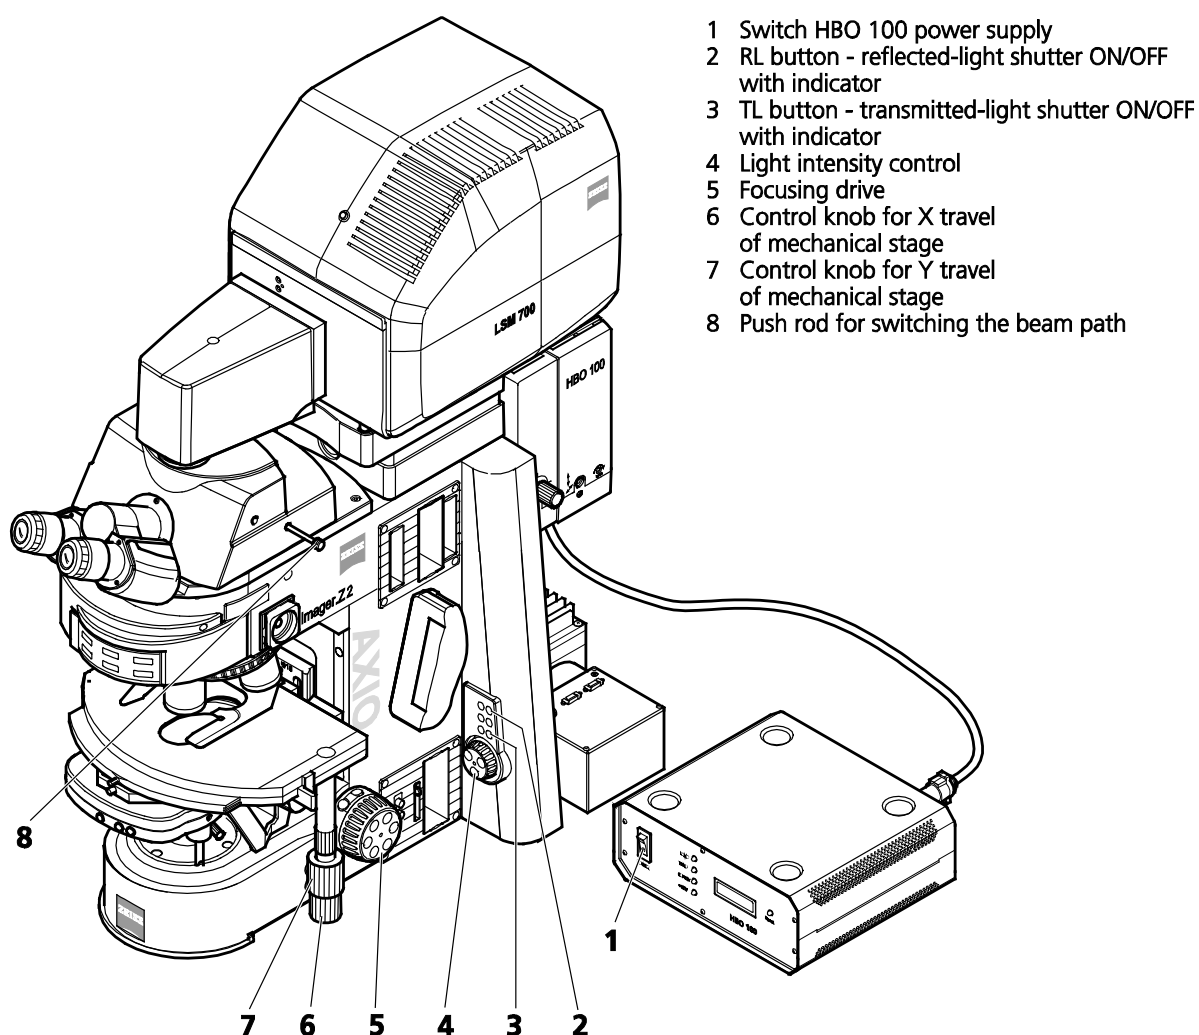

Fig. 39 LSM 700 with Axio Imager.Z2
(1) Microscope settings on Axio Imager for transmitted-light observation
- Pull out the push rod (Fig. 39/8) to switch the beam path of the tube in LSM position.
- Control the brightness of the halogen lamp with the potentiometer (Fig. 39/4) or the **Intensity %** slider in the **Ocular** panel.
- Use the focusing drive (Fig. 39/5) to focus the required object plane.
- Select specimen detail by moving the stage in X and Y using the XY stage fine motion control (Fig. 39/6 and 7).
(2) Microscope settings on Axio Imager for reflected-light observation (Epi-fluorescence)
- Turn on the HBO 100 W or X-Cite power supply with switch (Fig. 39/1).